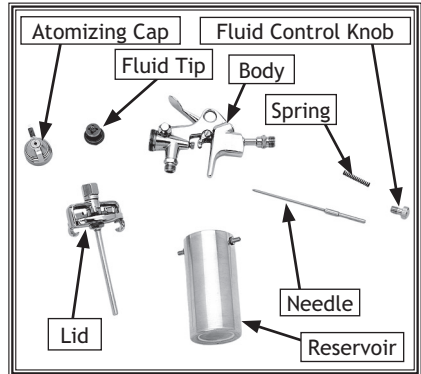

Figure 9. Gun disassembled for cleaning.
4. Disassemble the gun by unscrewing the fluid control knob, then remove the spring and needle (**Figure 9**).
5. Unscrew the atomizing cap with your fingers and the fluid tip with a wrench. The fully disassembled gun should look like **Figure 9**.